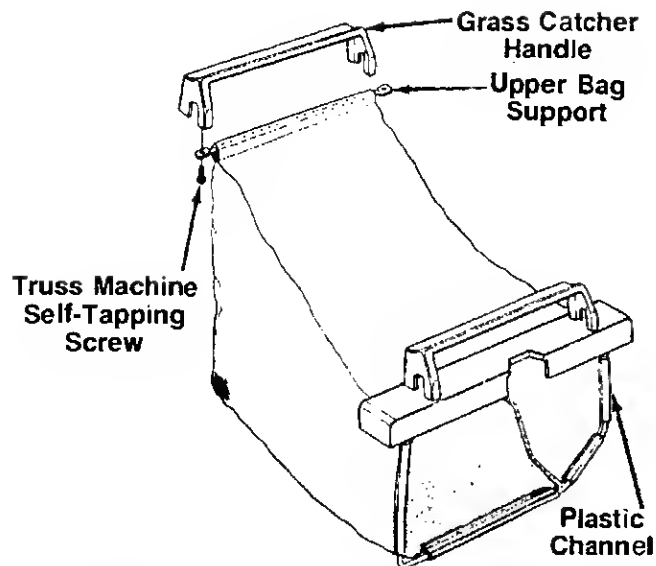

FIGURE 12.
1. Place bag over frame (black plastic side is the bottom of bag). Handle on frame goes to the top of bag. Notch in frame goes toward the front. See figure 12.
2. Secure bag to frame by slipping plastic channels on bag over frame. See figure 12.
3. Insert the upper bag support into the pocket on the rear of the bag. Place grass catcher handle on top of grass catcher support as shown in figure 12. The handle should hook toward the rear of the bag as shown in figure 12. Secure with two truss machine self-tapping screws.